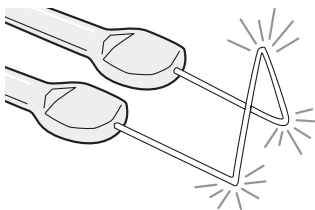

Fig. 15— Filament reformed into bent up loop
7. Mount the pipette on the stage mounted acrylic pipette holder and lock it in place with the locking screw (Fig. 15).